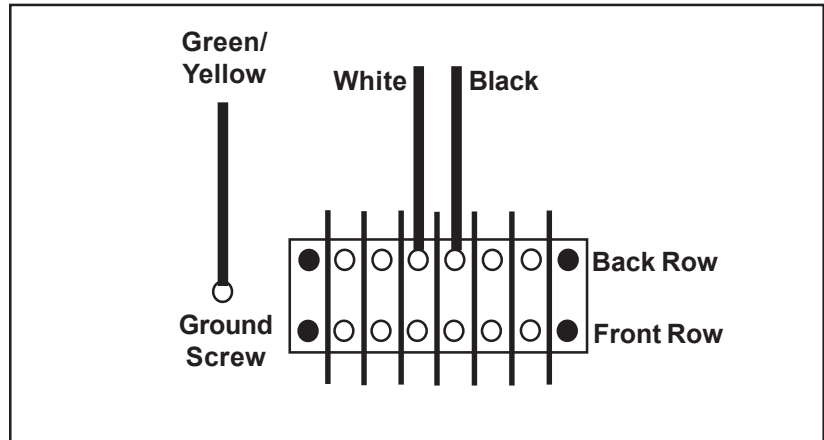

Figure 55. Electric Power Cord Wire Connections
2. Connect the three wires to the terminal strip as shown in Figure 55.